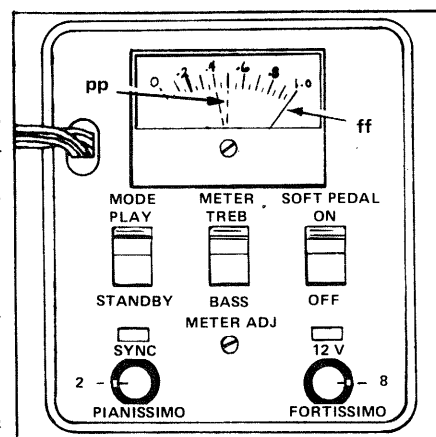

FIGURE 9-70 Test Box setting and Meter readings.
On the Test Box, set the MODE - PLAY/STANDBY Switch to STANDBY (see FIGURE 9-70), then select two (2) Keys at the Center of the Bass half of the Keyboard and play a trill. Begin playing pianissimo and gradually build to fortissimo. While playing, observe the reading on the Test Box Meter. The Meter should register a fluctuating reading which causes the Meter to move off the nominal reading of .4 to .5 while you are playing pianissimo and gradually rise to a reading of 1.0 as you begin playing fortissimo. If the Meter pointer fluctuates GREATLY as you play pianissimo or reaches a reading of 1.0 before you actually are playing the Keys fortissimo, do Point A below. If the Meter registers only slightly OR NOT AT ALL, when you play pianissimo, or does not reach a reading of 1.0, when you play fortissimo, do Point B below.